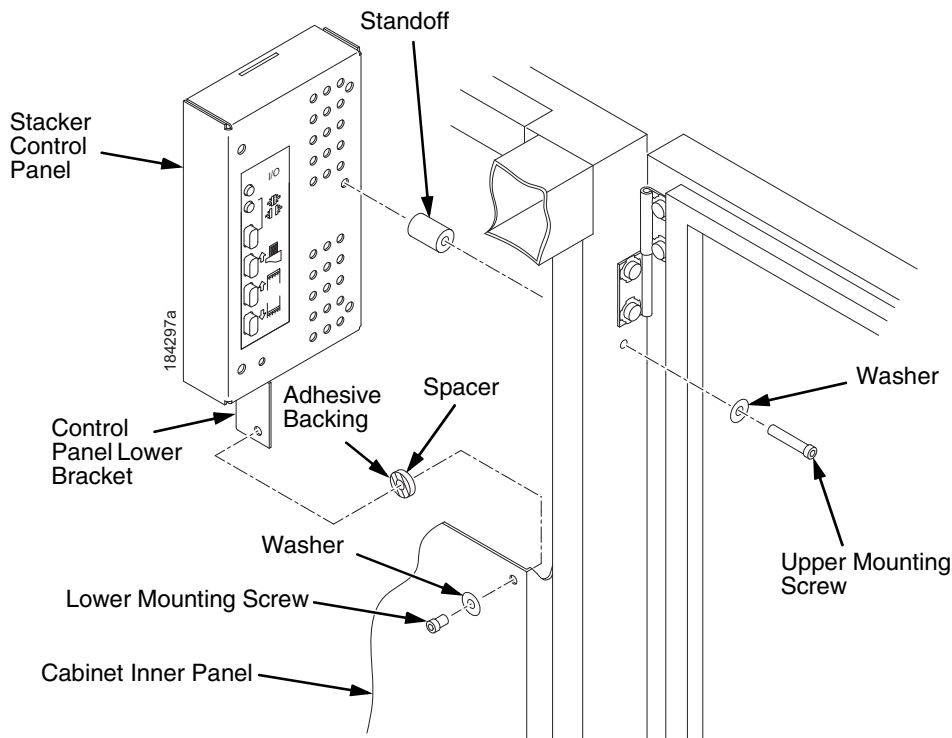

Figure 88. Installing the Stacker Control Panel
24. Apply the double-sided tape to one end of the control panel standoff. Remove the paper backing and hold the standoff inside the cabinet while you insert the upper mounting screw and washer through the hole in the frame. Use the screw as a guide to align the standoff with the hole, then press the standoff against the inside wall and push the upper screw in as far as it will go. Now maneuver the control panel into position and install the upper mounting screw finger tight in the control panel. (Figure 88.)
- 1) Peel the backing off the spacer adhesive. (Figure 88.)
- 2) Align the spacer with the holes in the lower bracket and inner panel. (Figure 88.)
- 3) Press the spacer adhesive against the inner panel. (Figure 88.)
26. Install the lower mounting screw and washer. Tighten the upper mounting screw. (Figure 88.)
178911-901; EMEA (RoHS): :250676-901) (See Figure 88, page 474)